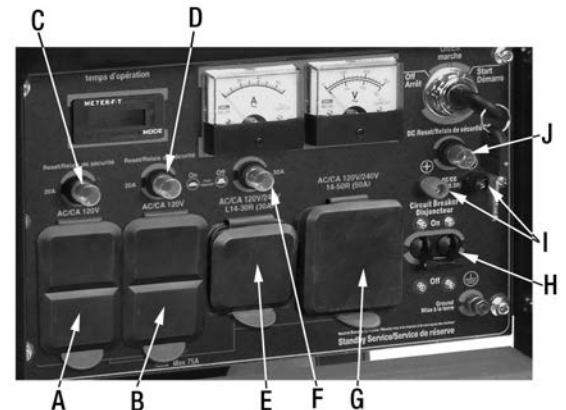

Figure 12
For normal 120V operation, plug your appliance or power bar into one of the two duplex 120V receptacles (A & B) Fig.12. Each receptacle has its own reset button (C & D) placed directly above.
This twist lock receptacle (E) Fig.12 is a NEMA L14-30 twist lock receptacle and requires a NEMA L14-30 plug to make the connection. If you are unsure about the use of this twist lock receptacle, contact a qualified electrician for more information. This receptacle has its own reset button (F) placed directly above.
This 120/240V receptacle (G) Fig.12 is a NEMA 14-50R receptacle and requires a NEMA 14-50P (50A) plug to make the connection. May be used to supply electrical power for the operation of 120V and/or 240V AC, single phase 60 Hz electrical loads, such as welders and dryers. If you are unsure about the use of this receptacle or what can be connected, contact a qualified electrician for more information.